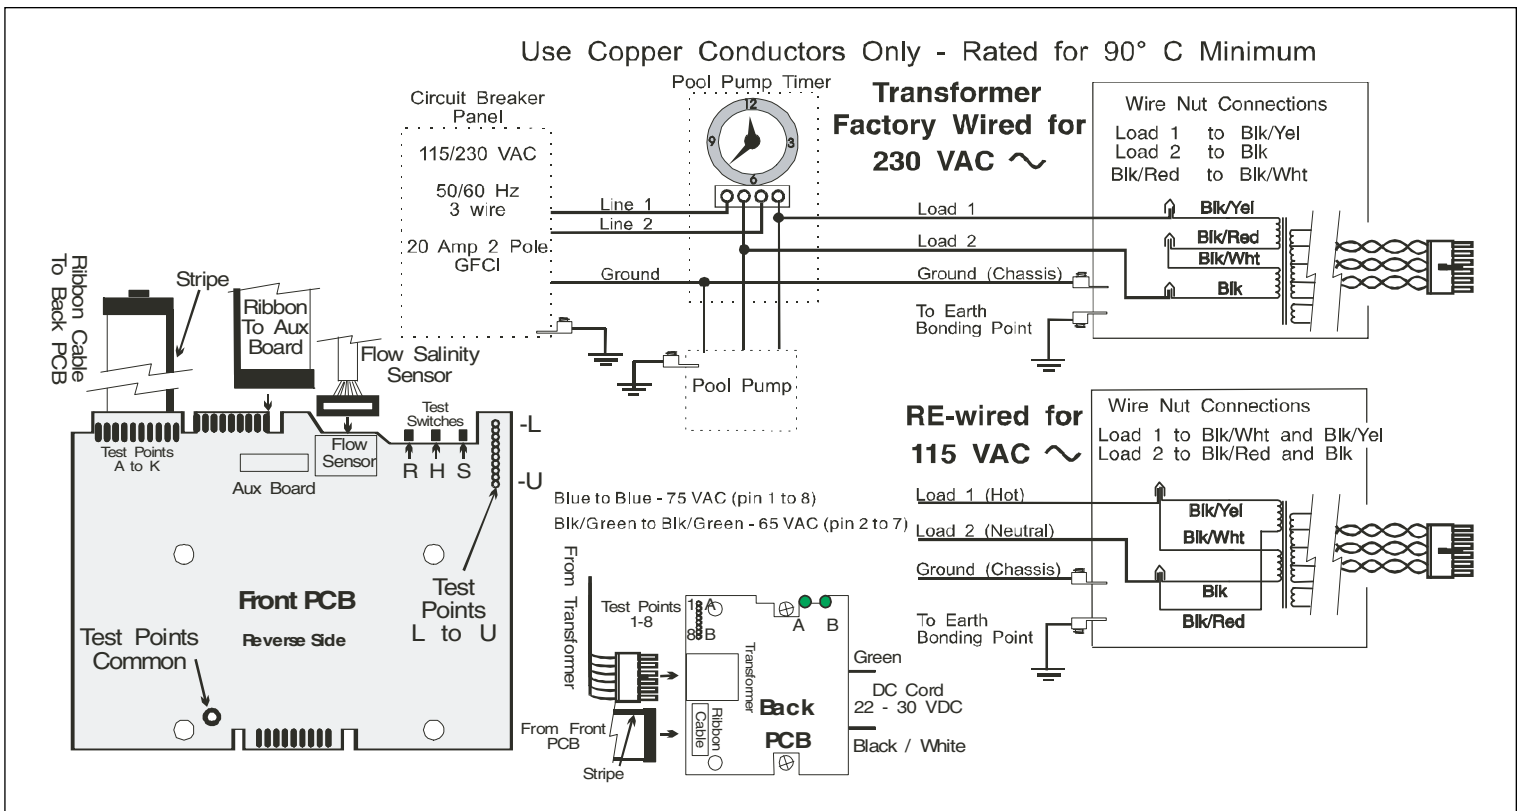

Figure 2. PURE700 and PURE1400
Factory wired for 230 VAC service. If available electrical service is 115 VAC, the power supply wiring must be changed to operate on 115 VAC as shown in the wiring diagram below. (Figure 2.)
4. Check source voltage. (All units are factory wired for 230 VAC). ***In order to use on 115 VAC, the internal factory wiring of the power supply must be changed. (See wiring diagram page 6 figure 2).***
5. Use #12/3 insulated wire and conduit. Wire power supply transformer to pool pump power source. The power supply should be connected to the pump motor switch or automatic timer (Pool Pump Timer) as shown. **The flow portion of the Flow/Temp/Salinity Sensor is a backup device only.** (See wiring diagram page 6 figure 2). Attach 3rd wire (Ground) from electrical panel to ground point inside Power Supply. **Earth bonding in next step must also be accomplished to insure personal safety and safety of equipment.**
9. Feed the connector end of the Flow/Temp/Salinity Sensor cable through the DC cord strain relief fitting located in the bottom of the power supply back plate (chassis). **Be certain the connector is clean and dry**, then plug the cable into the connector on the power supply Printed Circuit Board as shown on page 6 figure 2. **(Do not pull Flow/Temp/Salinity Sensor cable too tight, allow a little slack).**
11. Connect the DC cord to the Power Supply. Feed the DC cord through the same strain relief fitting as the Flow/Temp/Salinity Sensor. Plug the DC cord into the two push-on connectors located on the power supply Printed Circuit Board as shown. See page 6 figure 2.
14. Plug the ribbon cable attached to the front cover PC board into Printed Circuit Board mounted on back plate (See page 6 figure 2). Now reattach power supply front cover to the back plate.